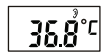
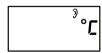

Figure 1
Figure 2
1. Press and release the Power Button to turn on the unit. The LCD will show the last memory as in Figure 1, then you will hear a beep. After approximately two seconds, the LCD will show that the unit is ready for measurement, as in Figure 2.
5. The LCD will illuminate and show the measured temperature reading, as in Figure 1. Refer to Table 1 for temperature range and back light color.